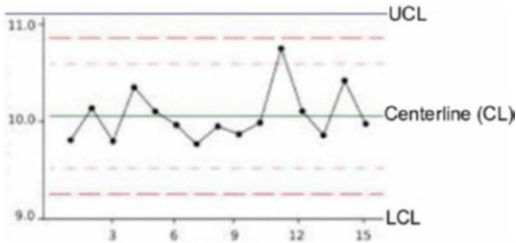

Figure 7-63. Control limit and specification limit of i5SPC chart
- *Control limits:* Control limits indicate the behavior of the process and whether the process is in control. The upper control limit (UCL) and lower control limit (LCL) are calculated statistically from the data available in the queries. UCL and LCL are set by calculating the mean, standard deviation, and range of process data collected for a stable process. See Figure 7-63.